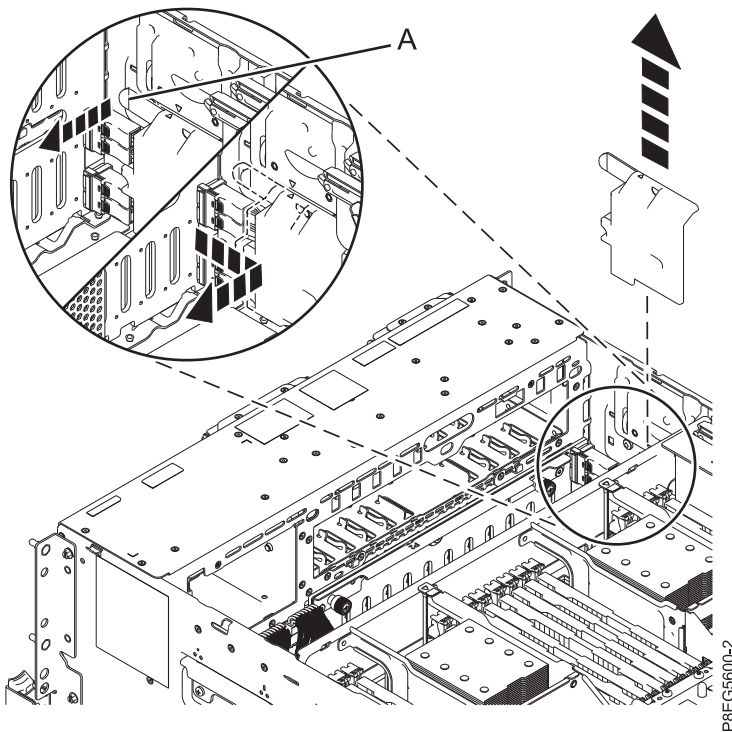

Figure 11. Removing the SAS cable cover
3. Remove the SAS cable cover from the side of the chassis. Grasp the handle (A) and pull away from the side of the system, then slide the cover toward the rear to remove it as shown. See Figure 11.